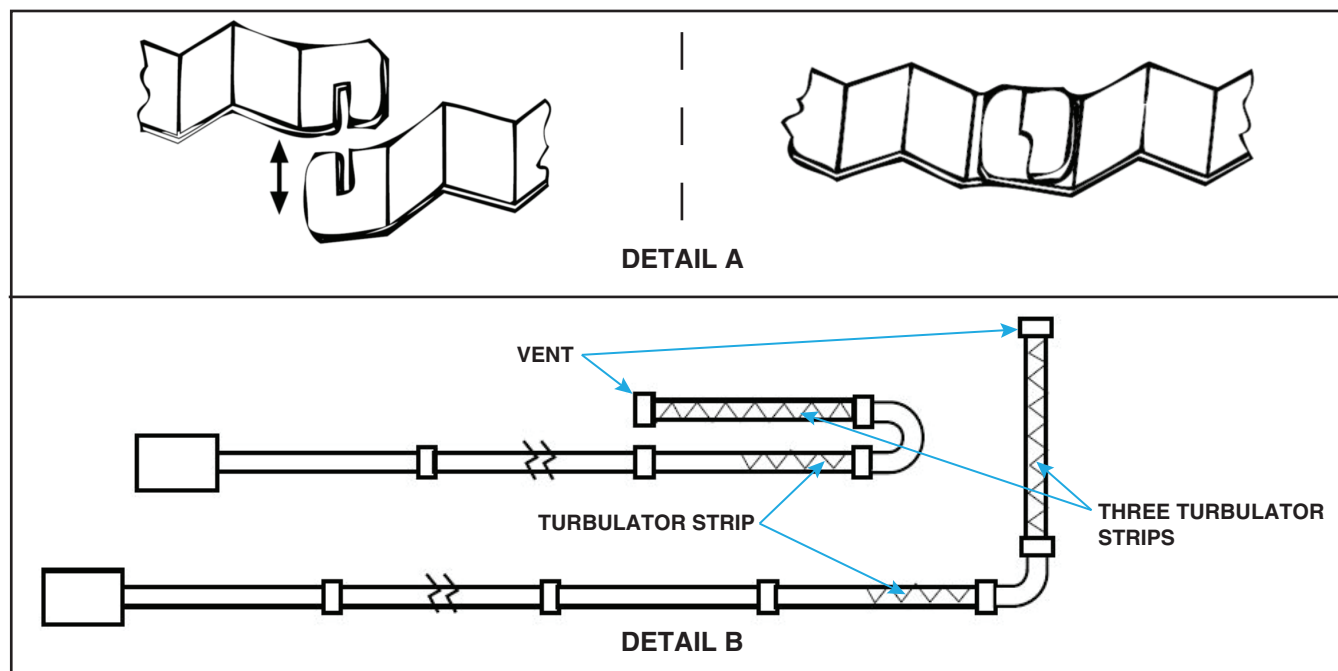

Figure 12. Turbulator Strip Installation
- a. Interlock turbulator strip sections as shown in Figure 12, DETAIL A.
- b. Slide connected sections into emitter tube(s) as shown in Figure 12, DETAIL B. Add further strips to form required length.